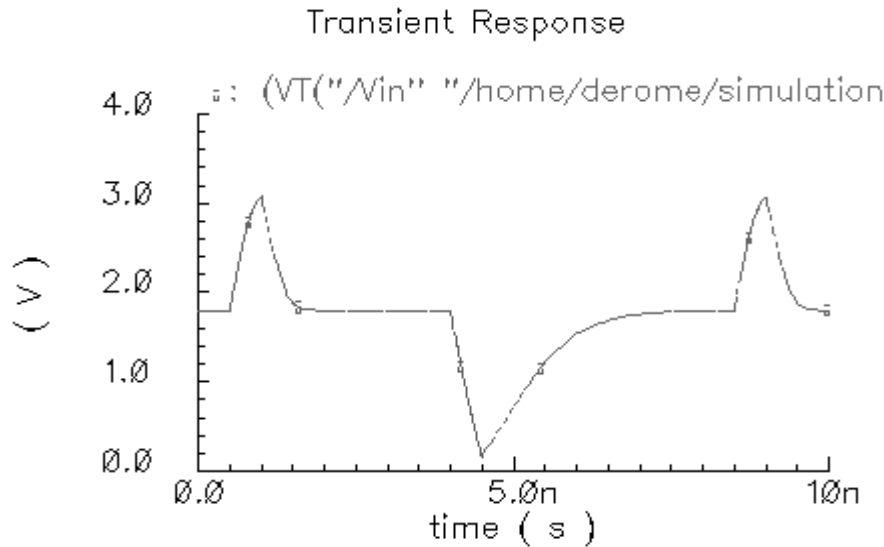

Figure 23: Resulting Voltage Waveform (Calculator)
- Click **erplot** from the calculator. It will reset the screen and plot the resulting expression (*Figure 23*).